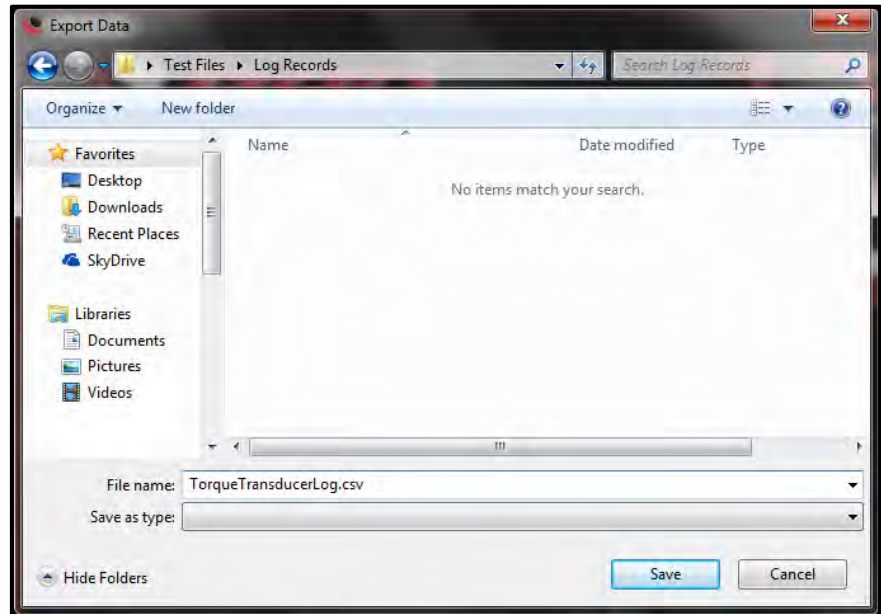

Figure 5.5-3: Saving the Data Log
- When confirmed "Yes" or "No," a file browser will open where you can save the file (Figure 5.5-3).